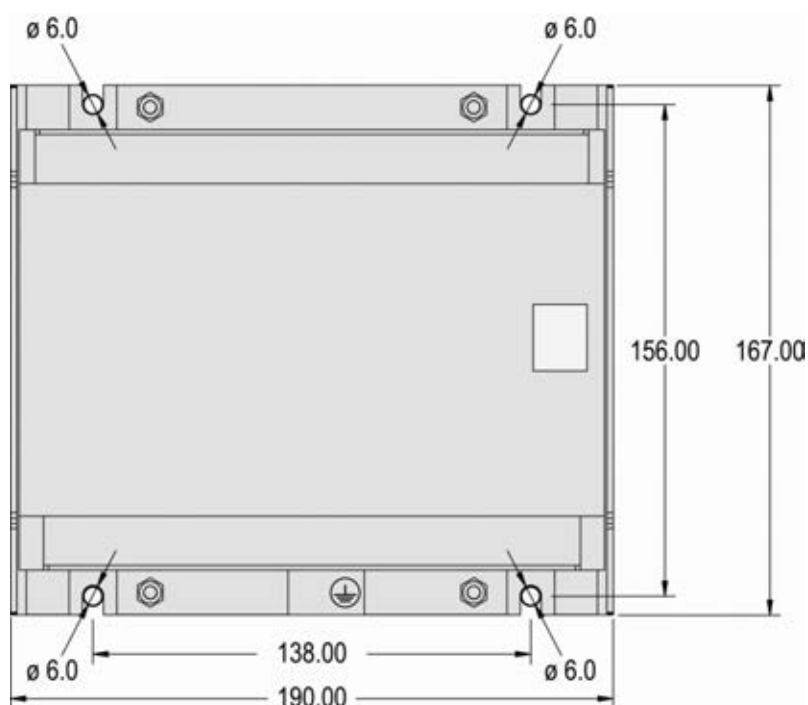

Fig. 8: Sheet metal housing - drill plan
1. ➤ Drill the holes according to the dimensions in Fig. 8 (dimensions shown in mm).